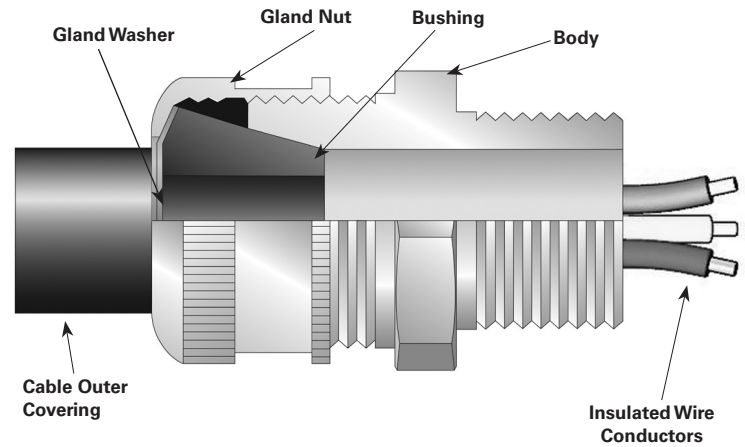

Figure 1
3. Install cable through the body far enough to allow wire connections (see Figure 1). If cable does not pass through the body, remove sufficient outer covering of cable to allow conductors to pass through the connector body.